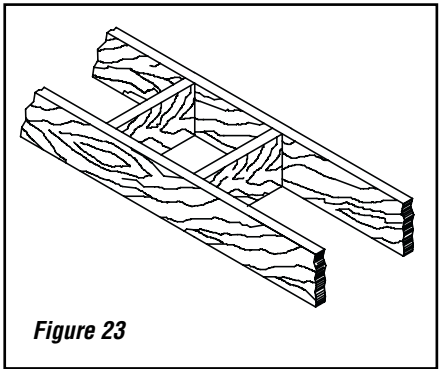

Figure 23
1. Cut and frame the holes in the ceiling, floor and roof where the chimney will pass (see **Figure 23**). Use a plumb-bob to line up the center of the holes. The sizes are indicated in **Table 1** for the wall and ceiling holes and **Table 2** (Page 18) for the roof holes.